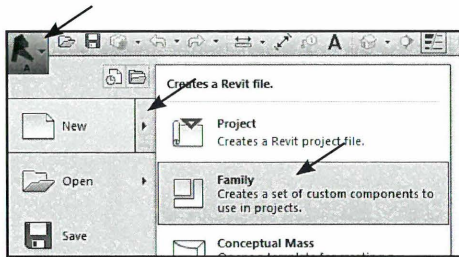

Fig. 08.70. Application Menu - New - Family.
- Vælg Application Menu - New - Family (Fig. 08.70).